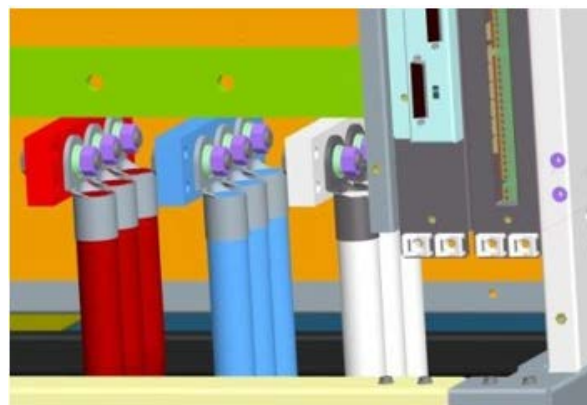

**Figure 3.10 UPS cabinet power terminals**
In a bottom cable entry installation the UPS power cables are connected to busbars located just below the power isolators near the bottom of the cabinet. Figure 3.10 identifies the power connections.
*Note: although Figure 3.10 shows all four UPS power isolators, the Maintenance Bypass Switch (IA1) is not fitted to a parallel module UPS cabinet because an external maintenance bypass facility will be installed.*
3. Connect the battery negative cables to the UPS cabinet's battery negative busbar (see also Figure 3.10).